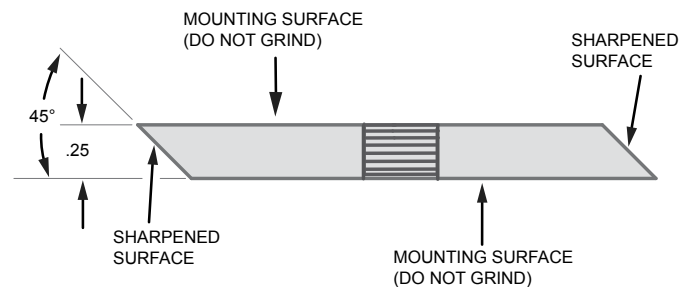

Figure 5.1
2. Regrind the angled edge of the chipping blades to 45 degrees (Figure 5.1). Make sure some type of fixture is used to correctly hold the blade at the proper angle.